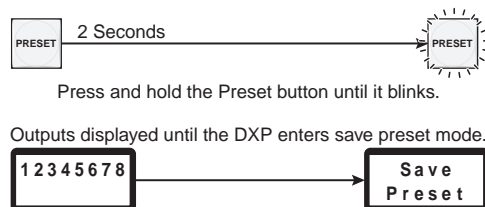

Figure 3-18 — Selecting save preset mode
1. Press and **hold** the Preset button for approximately 2 seconds (figure 3-18).